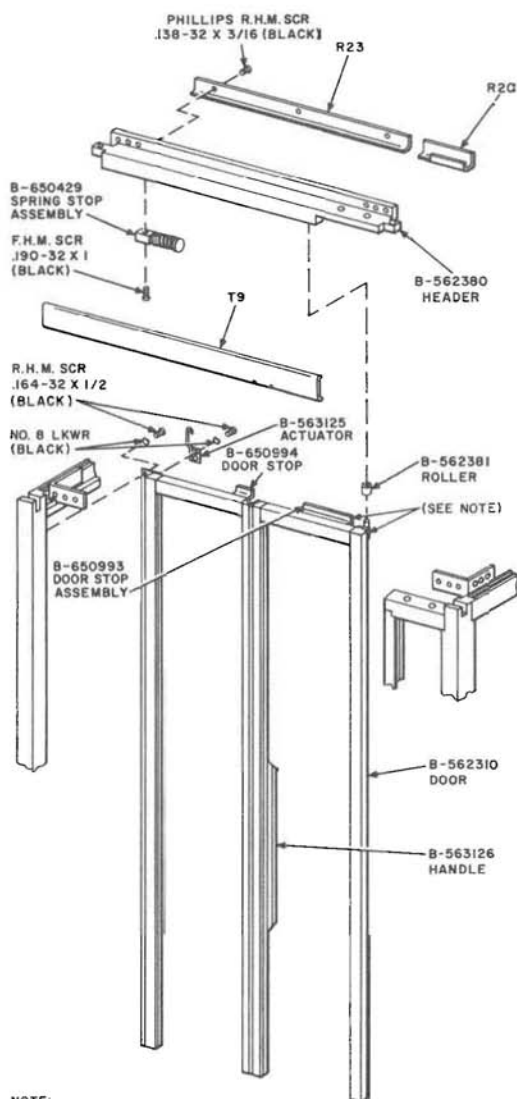

Fig. 23—Door Header, Trim, and Door Assembly
- (1) Ensure that booth is level.
- (2) Check hinge wear. Clearance between hinge barrels should not exceed 1/16-inch. Replace worn hinges.
- (3) Lubricate hinges, roller, and door track with KS-14774, List 2G lubricant. KS-14796 oiler can be used for application.
4.25 If it becomes necessary to install a new door, perform following procedures (Fig. 23):